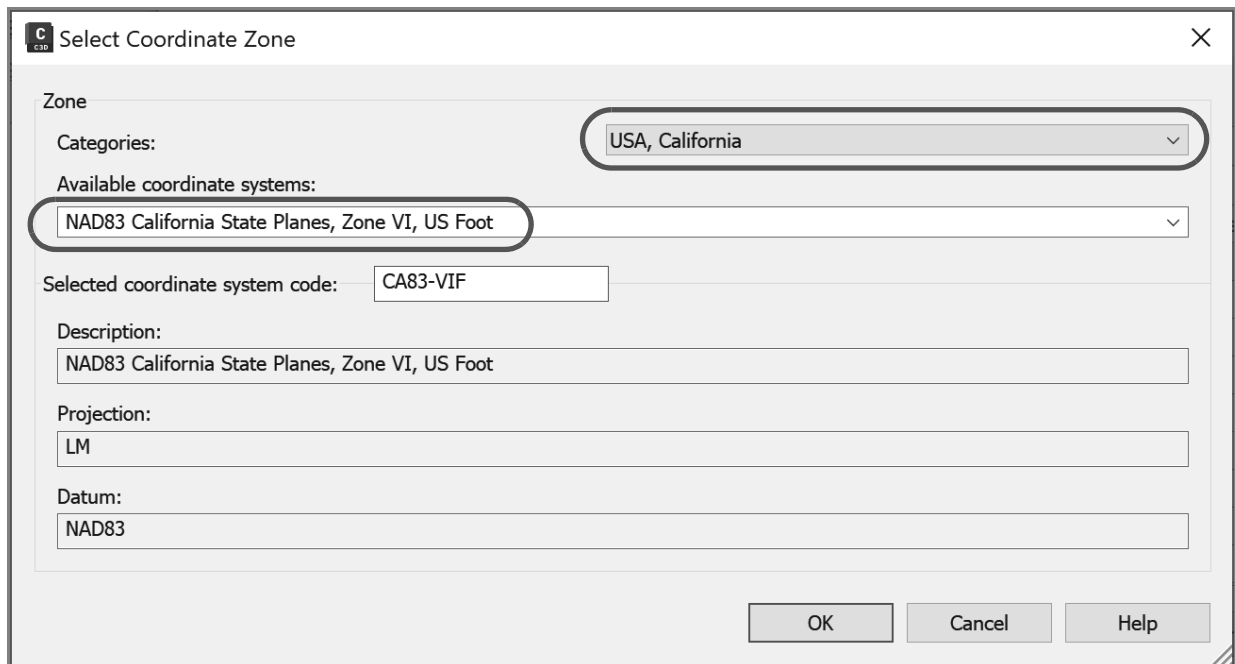

Figure 2–47
12. On the *Specify Data Sources* page, do the following, as shown in Figure 2–48: